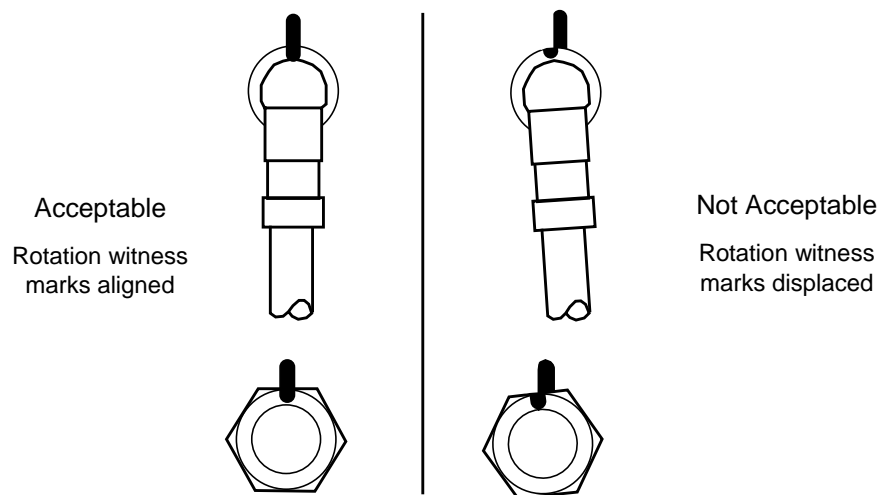

Figure 10. Bulkhead Fitting Location
6.5 Check bulkhead fittings for evidence of rotation (see Figure 10). If there is evidence of rotation, as indicated by the displacement of the rotation witness mark, correct as follows: